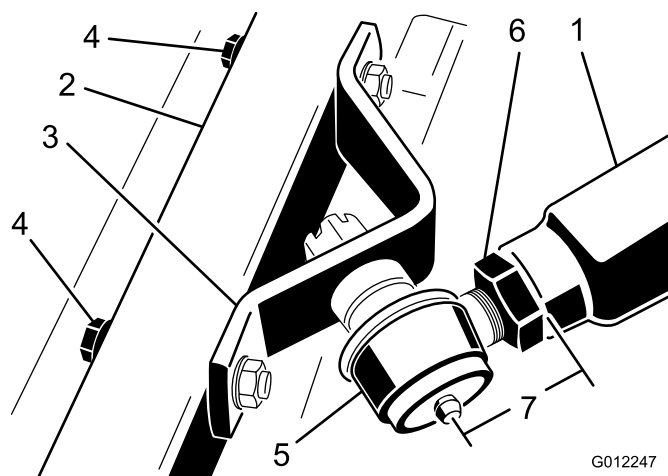

Figure 6
3. Measure the distance from the end of the right-hand push arm to the center of the ball joint (grease fitting) (Figure 6). The distance should be 70 mm (2-3/4 inches). If the distance is not 70 mm (2-3/4 inches), loosen the jam nut securing the ball joint to the push arm and rotate the ball joint in or out until the correct distance is attained (Figure 6). Do not tighten the jam nut at this time.
6. Tighten the large jam nut securing the ball joint to the push arm (Figure 6). When tightening the jam nut, hold the ball joint straight to permit proper oscillation during raising and lowering of the cutting unit. Carefully remove the wood block holding the push arm down.